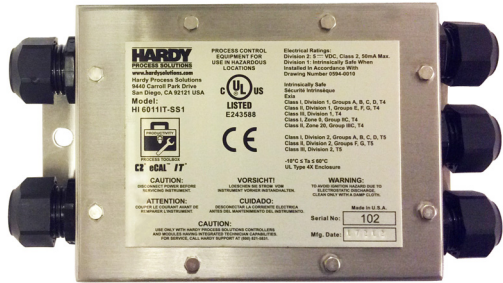

FIG. 12 REMOVING THE SUMMING BOX LID
- Step 3. Remove the 8 hex head screws that fasten the cover to the summing box chassis using a 5.5mm hex wrench or a 5.5mm hex socket (See Fig. 12)